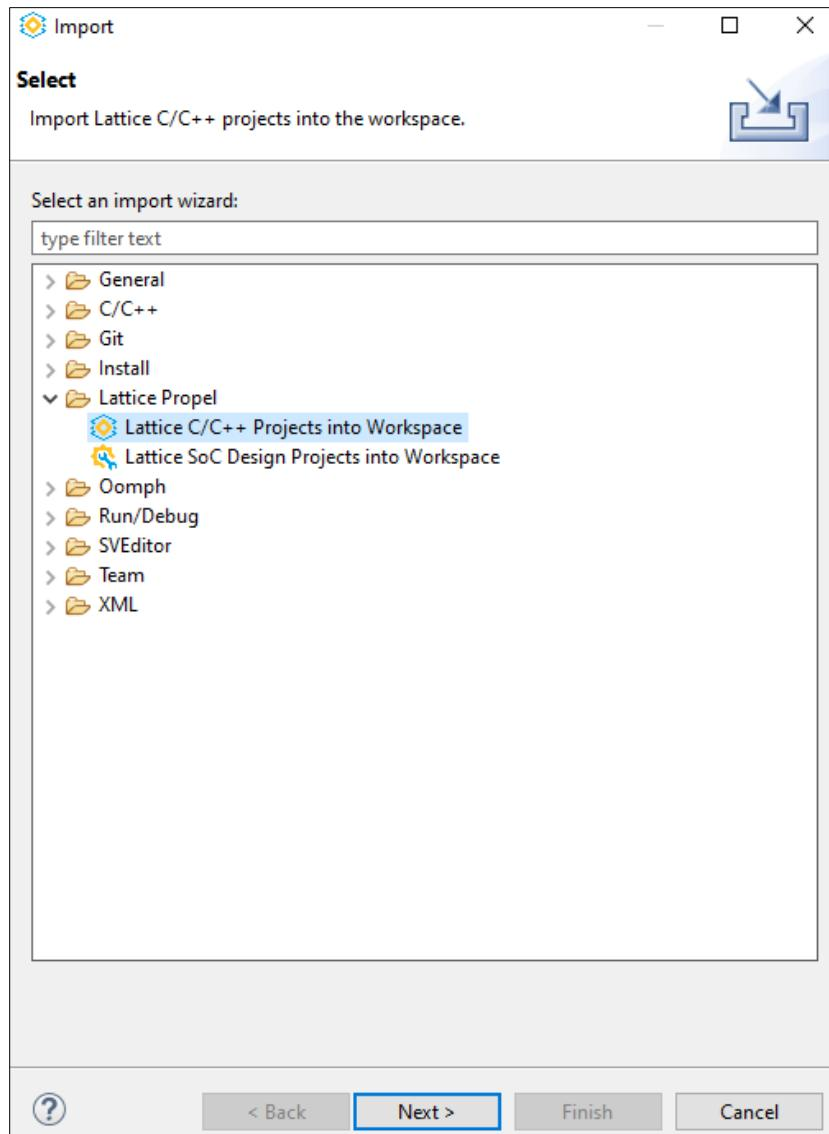

**Figure 5.7. SoC Project – Imported**
10. The SoC project opens in Lattice Propel Builder (Figure 5.7).